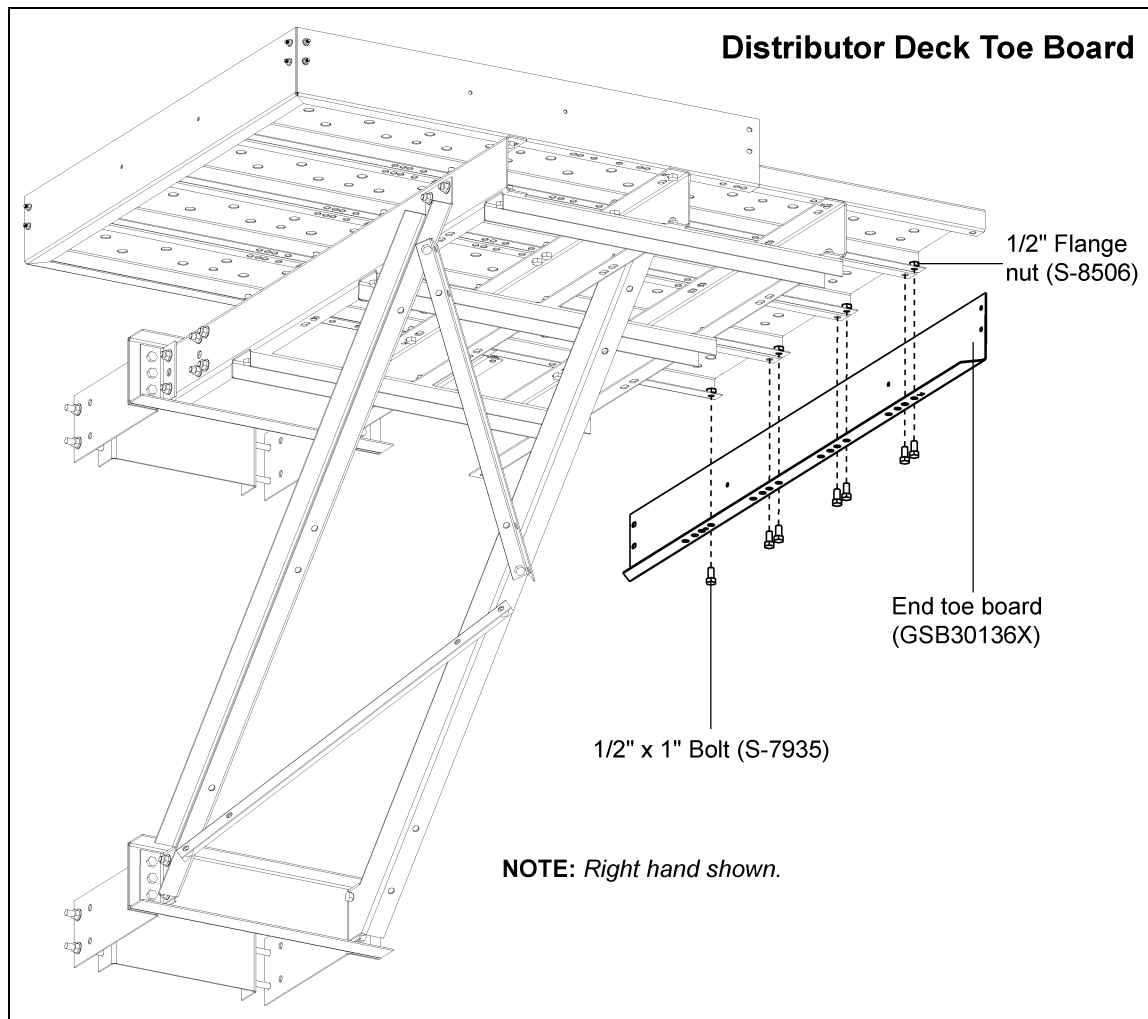

Figure 12F Distributor Platform Toe Board
3. Attach the flange of the toe board short side to the bottom of the 18" decking using two (2) 1/2" x 1" bolt and nuts. Then attach 18" decking to the external platform support using one 1/2" x 1" bolt and nut. (See Figure 12F on Page 97.)